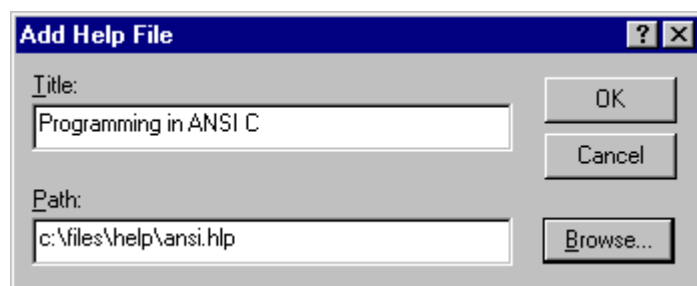

Figure 6.8: Add Help File Dialog
2. Click the “Add...” button. The “Add Help File” dialog will be displayed * MERGEFORMAT (figure 6.8).